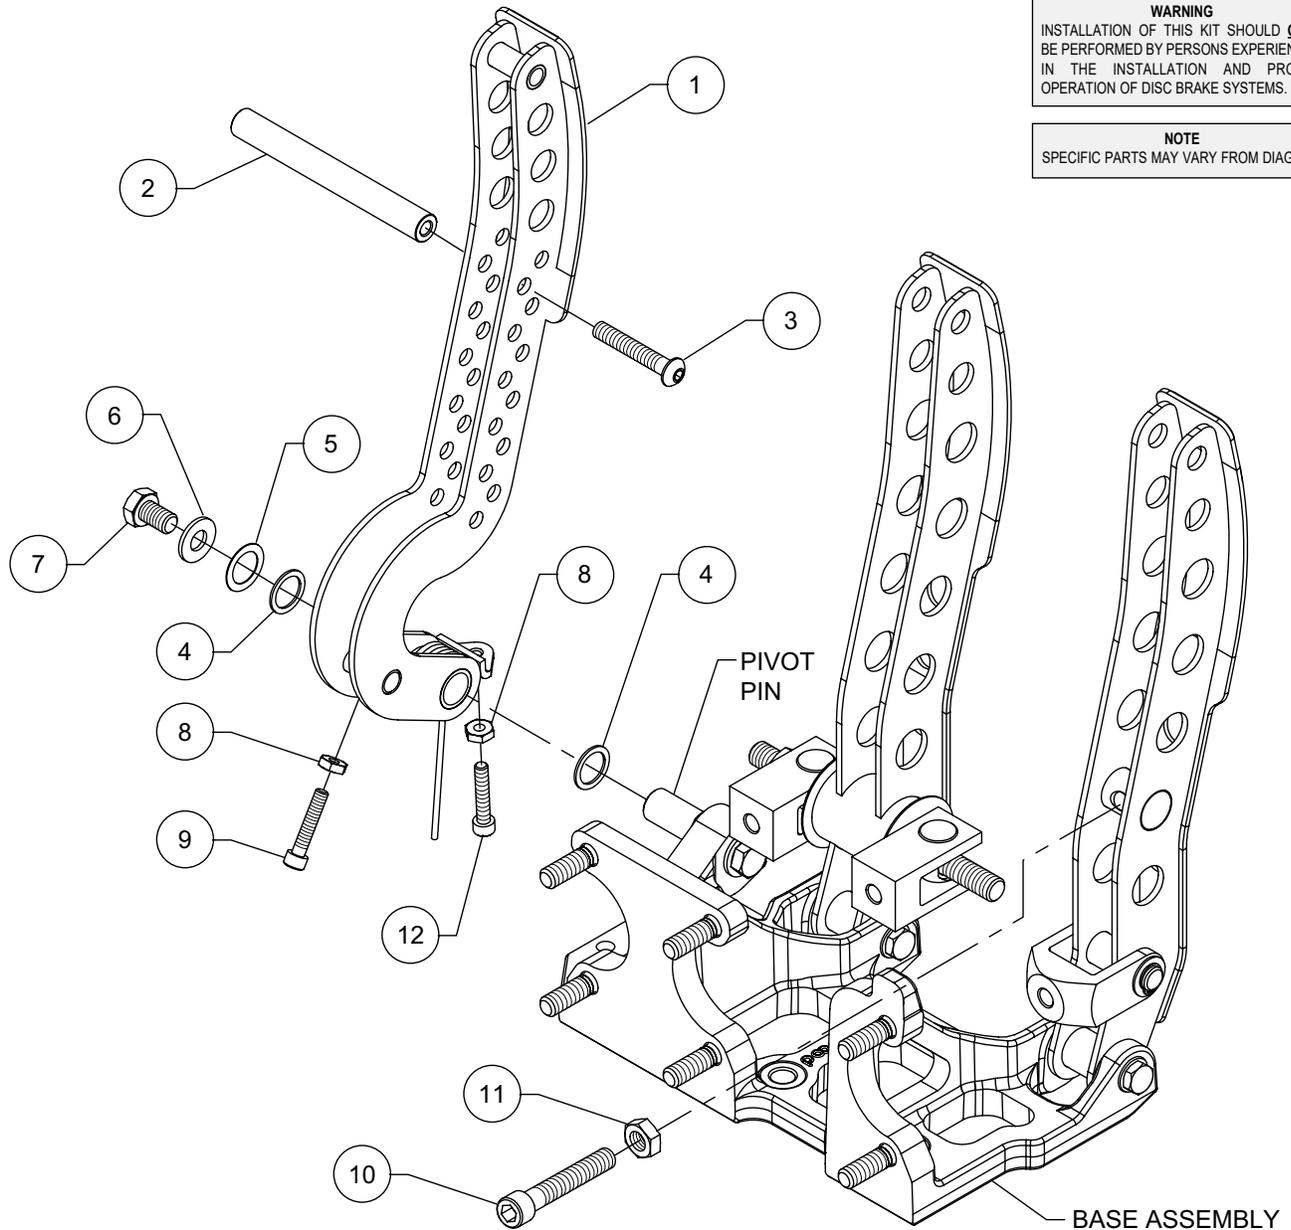
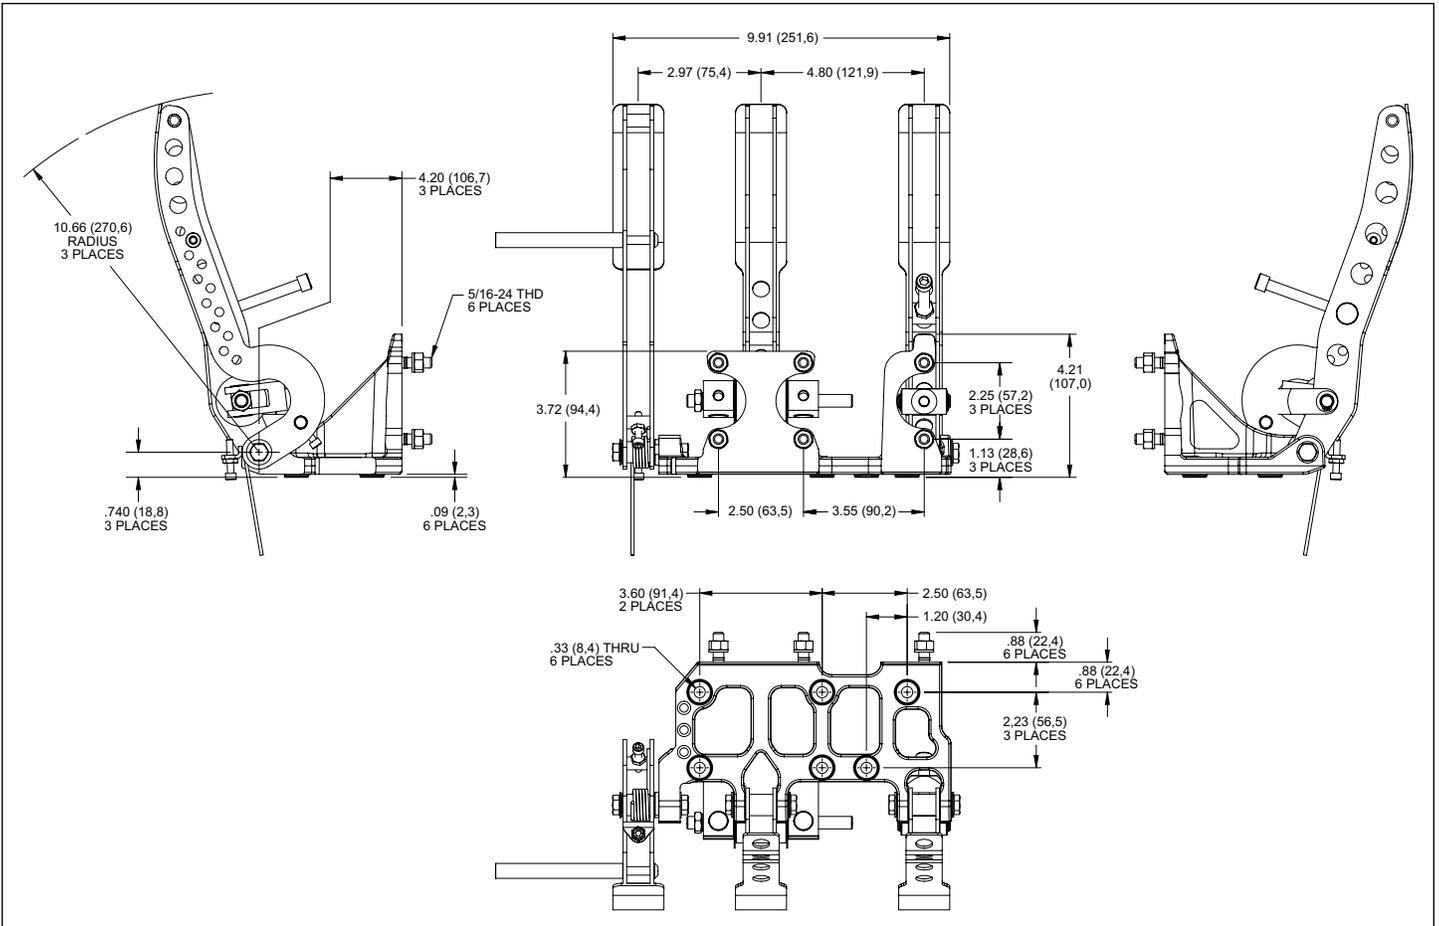

Figure 1. Typical Installation Configuration, For Rear Engine Cars, Part Number 340-12410
Figure 3. Floor Mount Triple Pedal Assembly, Physical Dimensions (shown with optional throttle assembly)
Assembly Instructions • Part Number 340-12410 (numbers in parenthesis refer to the parts list and Figure 1 on page 3):
- Install the throttle pedal (1) to the base assembly by sliding shim (4) and the pedal onto the pivot pin. Secure using one .035 thick nylon shim (4), one wave washer (5), washer (6) and bolt (7) as shown in Figure 1. Temporarily tighten the bolt to 18 ft-lbs. Check that the pedal moves freely without binding. If too tight, subtract shim (5) to obtain the correct pedal movement. After the pedal adjustment is finalized, remove the bolt, apply red *Loctite*® 271 to the threads and torque to 18 ft-lbs.
- Screw the throttle pedal stop bolts (9) into nuts (8) and then into the throttle pedal (1), front and rear. **NOTE:** Final adjustment of the stop bolts will be performed after pedal installation in vehicle.
- Screw the clutch stop bolt (10) into nut (11) and into the clutch pedal. **NOTE:** Final adjustment of stop bolt will be performed after pedal installation in vehicle.
- NOTE:** For rear engine installation only. Install the rear throttle pull rod (2) to the throttle pedal (1) using bolt (3).
- Refer to page 5 and Figure 3 for vehicle installation instructions and mounting dimensions.
•Mount the final pedal assembly to the floor using six .33" (8,4) through holes as shown in Figure 3. Attach the pedal assembly to sturdy beams or plates with six 5/16 inch bolts. Pedal assembly must be rigidly attached to frame and not deflect under heavy pedal forces. **NOTE:** Pedals must be free from obstructions over their entire range of motion. Allow enough space so balance bar adjustments can be made and master cylinders are accessible.